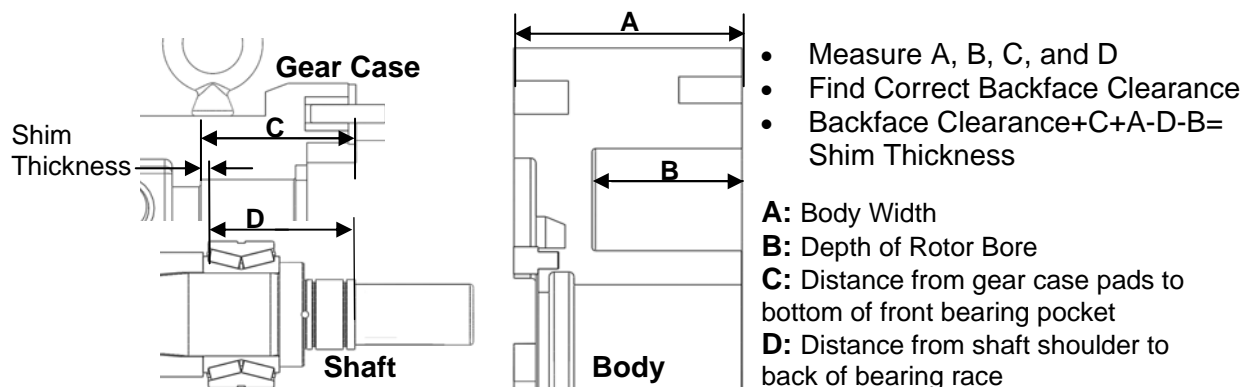

Figure 51: Calculating Shims
3) Shims located on the shaft behind the front bearing control the backface clearance of the pump; the space between the body and the rotor. If neither the shafts or bearings are being replaced, use the shims (if properly marked) removed at disassembly and reuse making sure they are installed in the correct bores. If replacing shafts or bearings, a process of calculating the required shims is necessary. Use Figure 51 and the following equation to calculate. To find the correct backface clearance see Table 8, page 33.